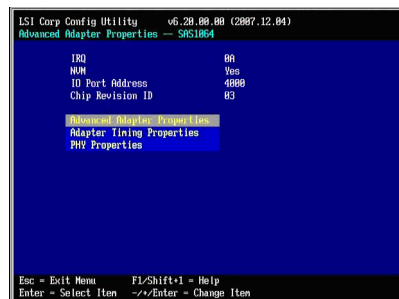

Figure 12. Advanced Adapter Properties screen
- Use the arrow keys to select **Advanced Adapter Properties**, then press Enter. The Advanced Adapter Properties screen displays as shown in Figure 12.